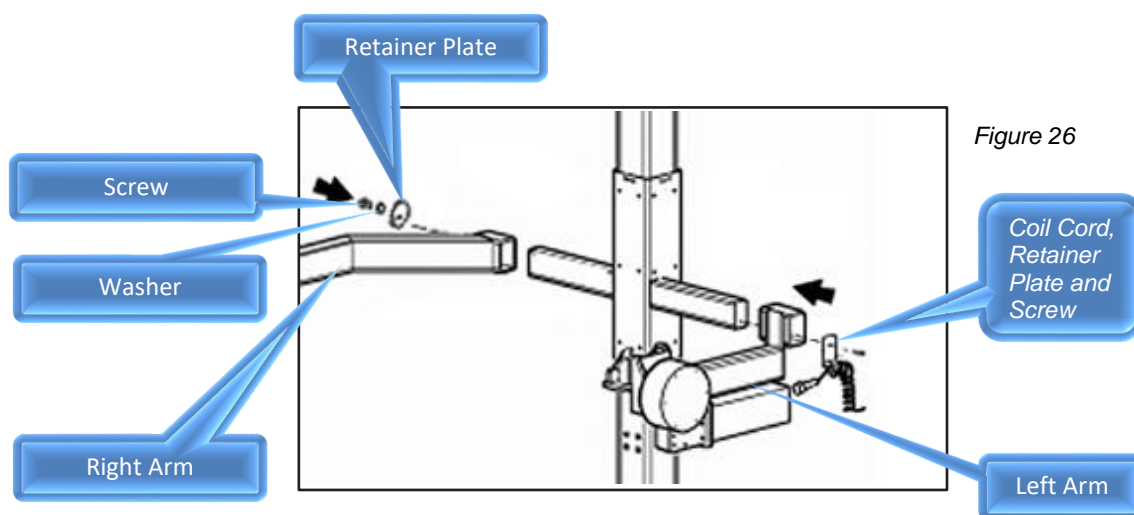

Figure 26
2. Locate the right and left arms. Slide them on the slide assembly arms (Figure 26).
3. Install the retainer plate, washer, and screw onto the end of the right slider arm (Figure 26).